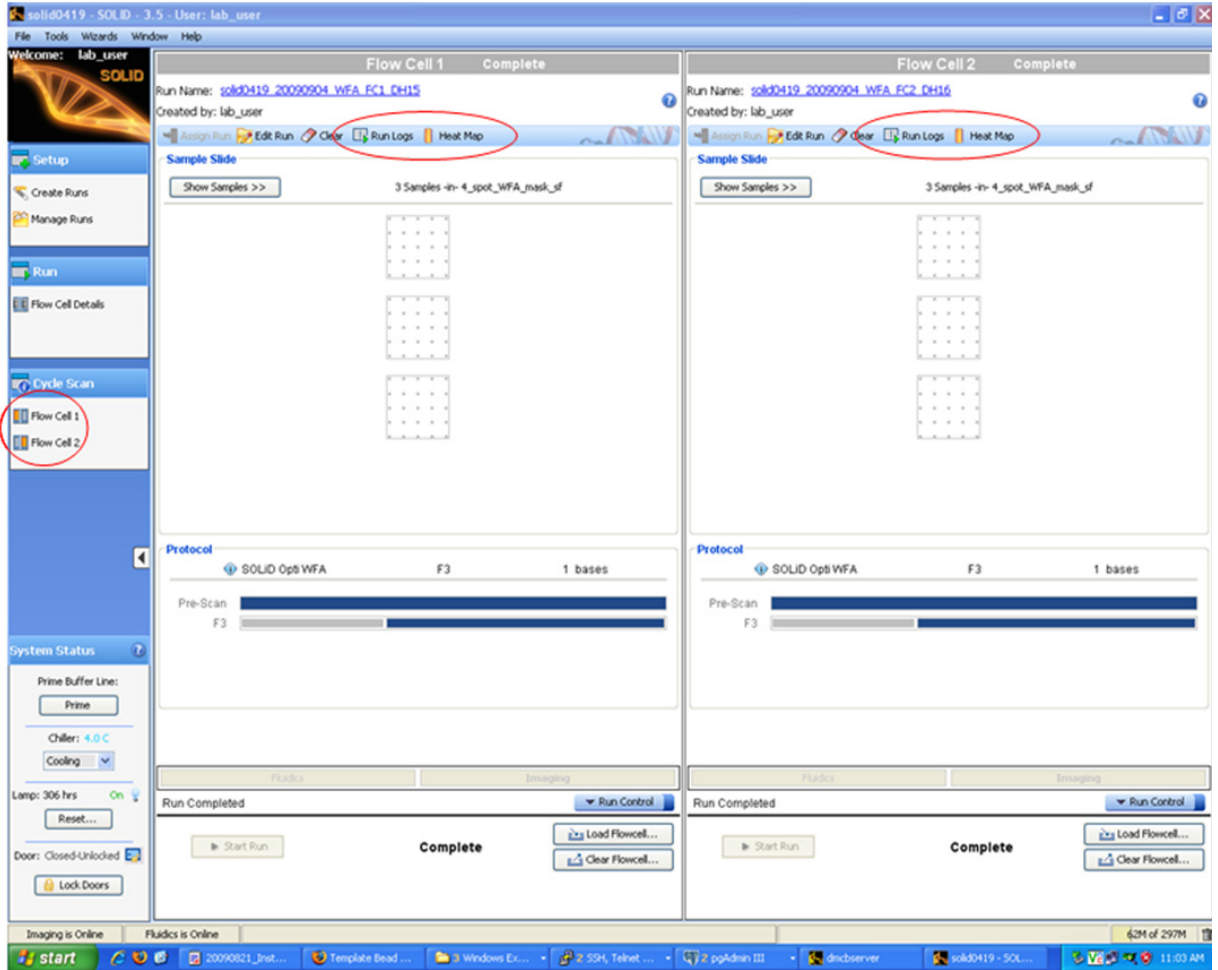

Figure 44 How to learn more about the current run.
3. After the run has been initiated, you can click the **Run Log**, **Cycle Scans**, and **Heat Map** buttons located at the top of the appropriate flowcell panel to learn more information about the current run (see Figure 44 on page 47).
1. To view the heat map showing bead densities found in the focal map images, click **Heat Map** located at the top right-hand corner of the flowcell panel (see Figure 44 on page 47).